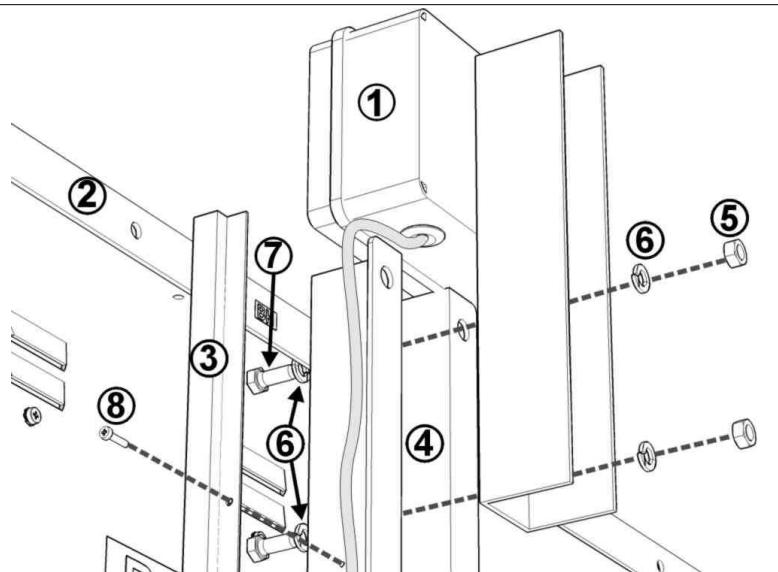

Fig. 2.2: Detail of mounting procedure
- 1) From the vertical bracket with 'Ω' profile, located to the right of the scoreboard (rear view), remove the closing nut and washer of the top M8x20 fastening screw (Fig. 2.2).
- 2) Align the support bracket of the receiver to the 2 holes on the 'Ω' profile bracket as in Fig. 2.2, and lock it in place with the M8x20 screws and relative washers and nuts.
- 3) Fasten the cable entry conduit to allow for the passage of the cable along the 'Ω' profile bracket of the Scoreboard as in Fig. 2.2.